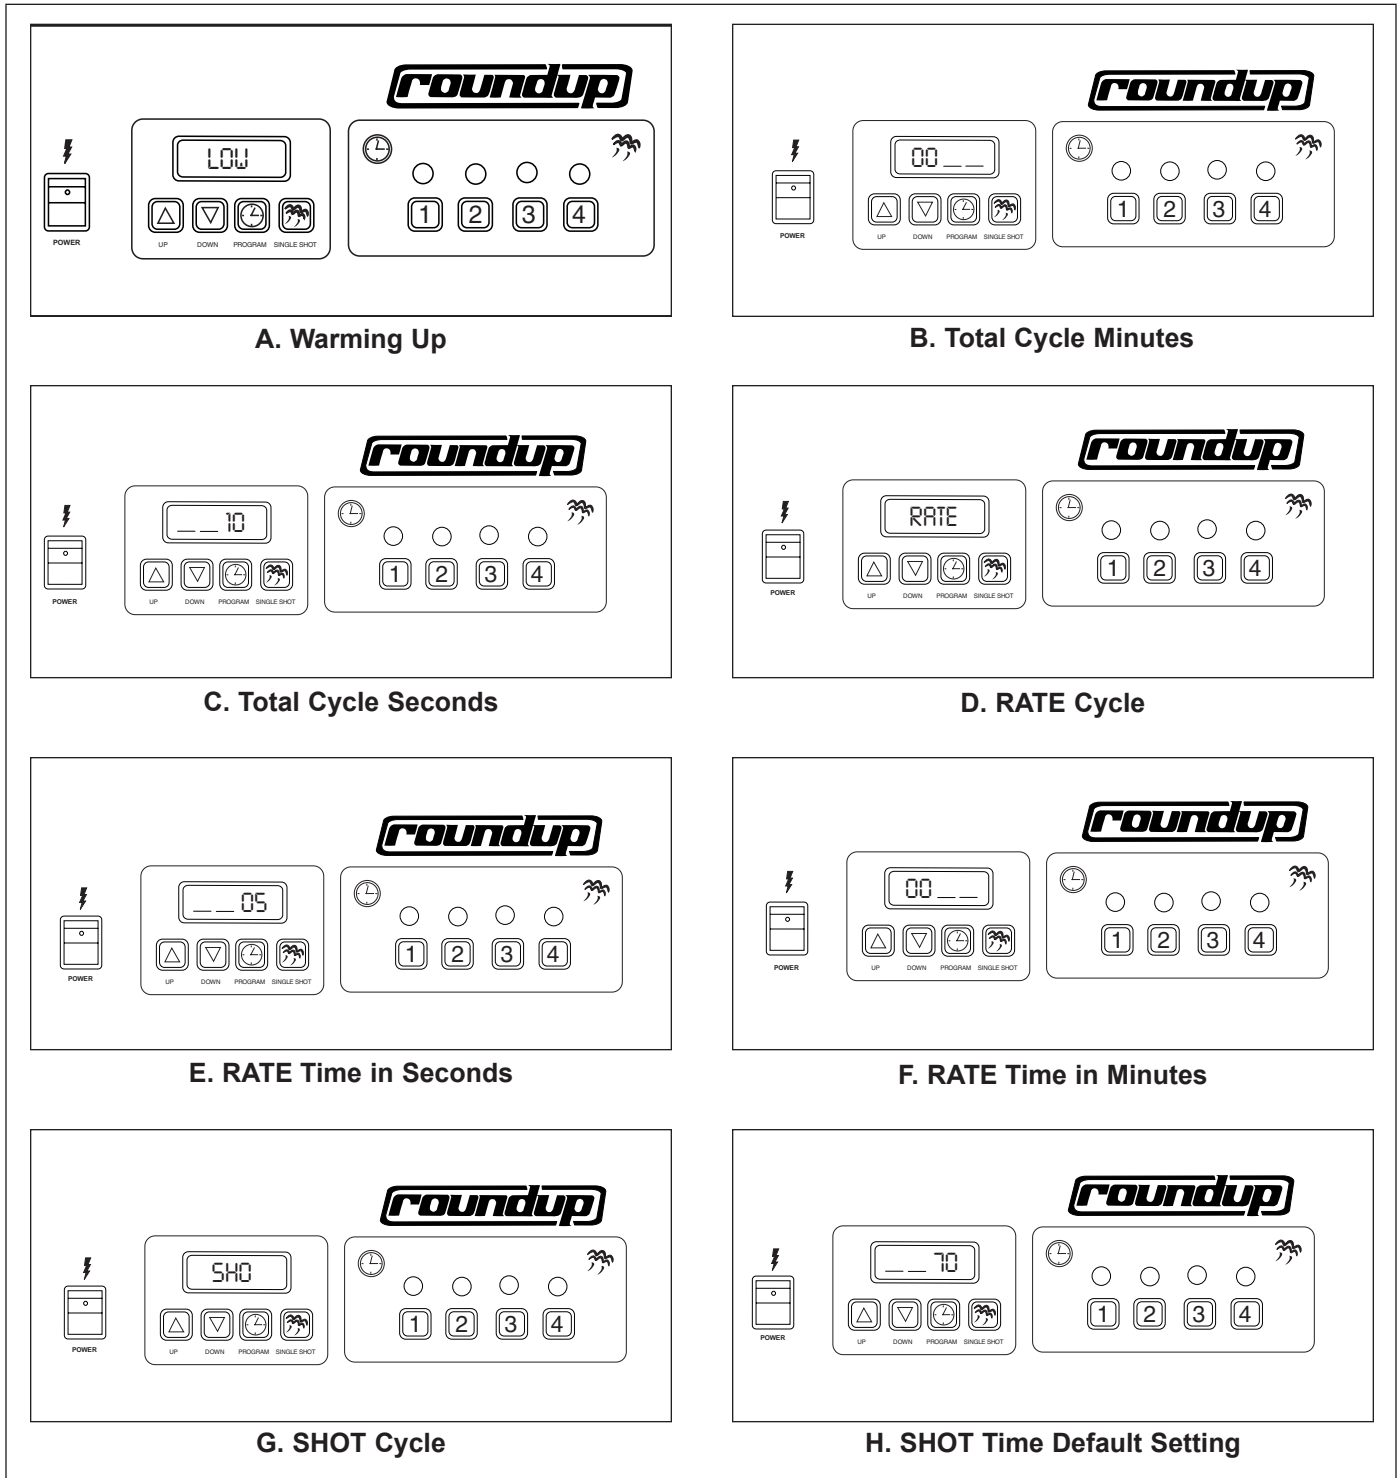

Figure 5. Control Programming Sequence
To program the control, refer to Figure 5 and use the following procedure in sequence:
2. Press the PROGRAM button (Figure 4) to change the control from OPERATION to PROGRAM mode. The default setting will appear in the display (Figure 5, Item A).
3. Press the UP or DOWN arrow buttons to change the total cycle time in minutes (Figure 5, Item B).
4. Press the PROGRAM button again, then use the UP or DOWN arrow buttons to change the total cycle time in seconds (Figure 5, Item C).
5. Press the PROGRAM button again, then Press both UP and DOWN arrow keys simultaneously. “**RATE**” will be displayed (Figure 5, Item D).
To change the RATE in minutes (Figure 5, Item E), press the PROGRAM button within 10 seconds of setting the seconds, then use the UP or DOWN arrow buttons to increase or decrease the time.
8. Press the PROGRAM button again and SHOT will be displayed (Figure 5, Item F).
9. Use the UP or DOWN arrow buttons to increase or decrease the time (Figure 5, Item G).